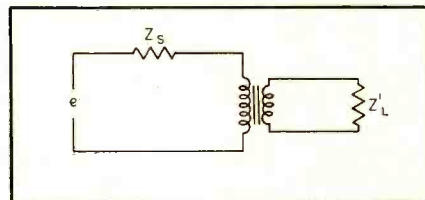

Fig. 1. Circuit of transformer working between impedances of Z_s and Z_1 .
(1) With respect to non-linear distortion in the transformer a circuit consisting of a source (internal resistance r), transformer and load, *Fig. 1* may be replaced by the equivalent circuit of *Fig. 2*. In the case where all circuit elements are linear, this reduces to Thévenin's Theorem.
(2) If no constant polarizing current is present, only odd-number harmonics are produced. Third harmonic predominates and if an accuracy of 5 per cent is acceptable, higher harmonics may be neglected.
(3) The existence of a constant component of magnetizing force results in an asymmetrical hysteresis loop and even as well as odd harmonics appear. If the peak flux density is less than 10,000 gauss (for
Fig. 2. Equivalent circuit of Fig. 1. (A) represents transposition of transformer impedance ratio; (B) represents transposition using Thévenin's theorem; and (C) represents simplification of (B).